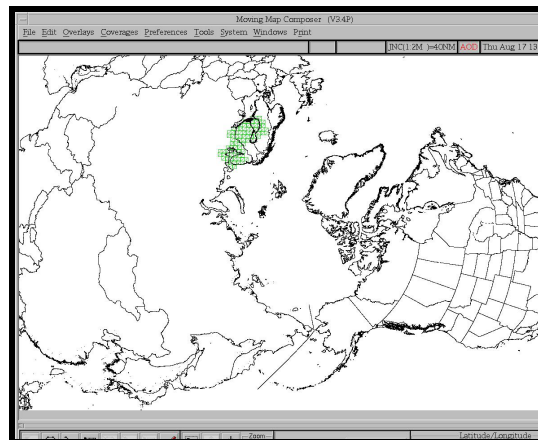

Fig. 7 – Geotiff map segments to be processed
- A bitmap of the map segments to be processed from this geotiff data is displayed (Fig. 7). Verify the approximate geographic extents of the map coverage shown and if correct, click *Yes*.
- iii. A bitmap of the map segments to be processed from this geotiff data is displayed (Fig. 7). Verify the approximate geographic extents of the map coverage shown and if correct, click *Yes*.